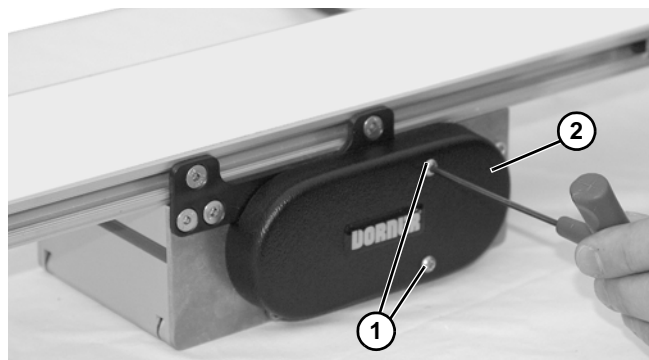

Figure 21
1. Remove two screws (Figure 21, item 1) and cover (Figure 21, item 2) from conveyor.